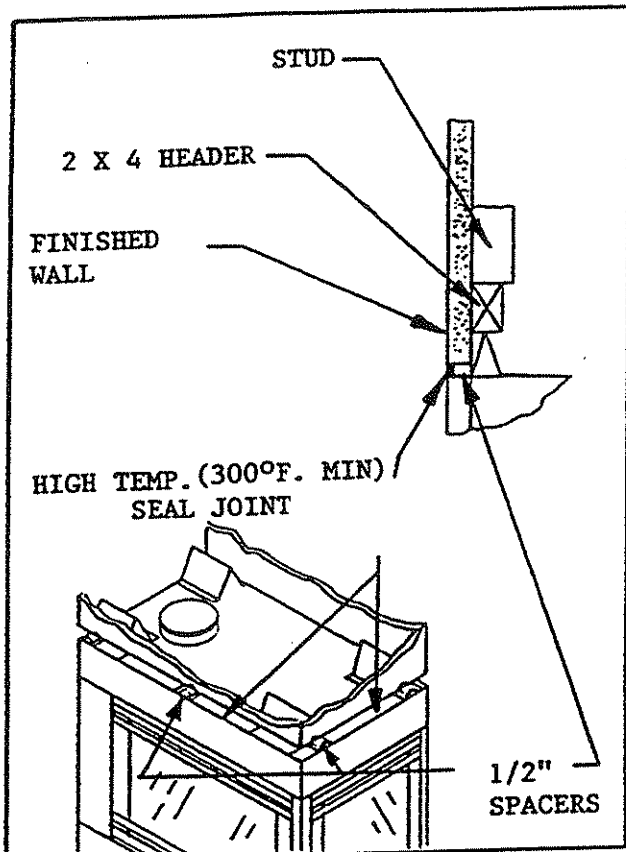

FIGURE 37
**CAUTION:** ALL JOINTS BETWEEN THE FINISHED WALL AND THE FIREPLACE SURROUND (TOP AND SIDES) CAN ONLY BE SEALED WITH NON-COMBUSTIBLE MATERIAL. ONLY NON-COMBUSTIBLE MATERIAL CAN BE APPLIED AS FACING TO THE FIREPLACE SURROUND. SEE FIGURE 37.